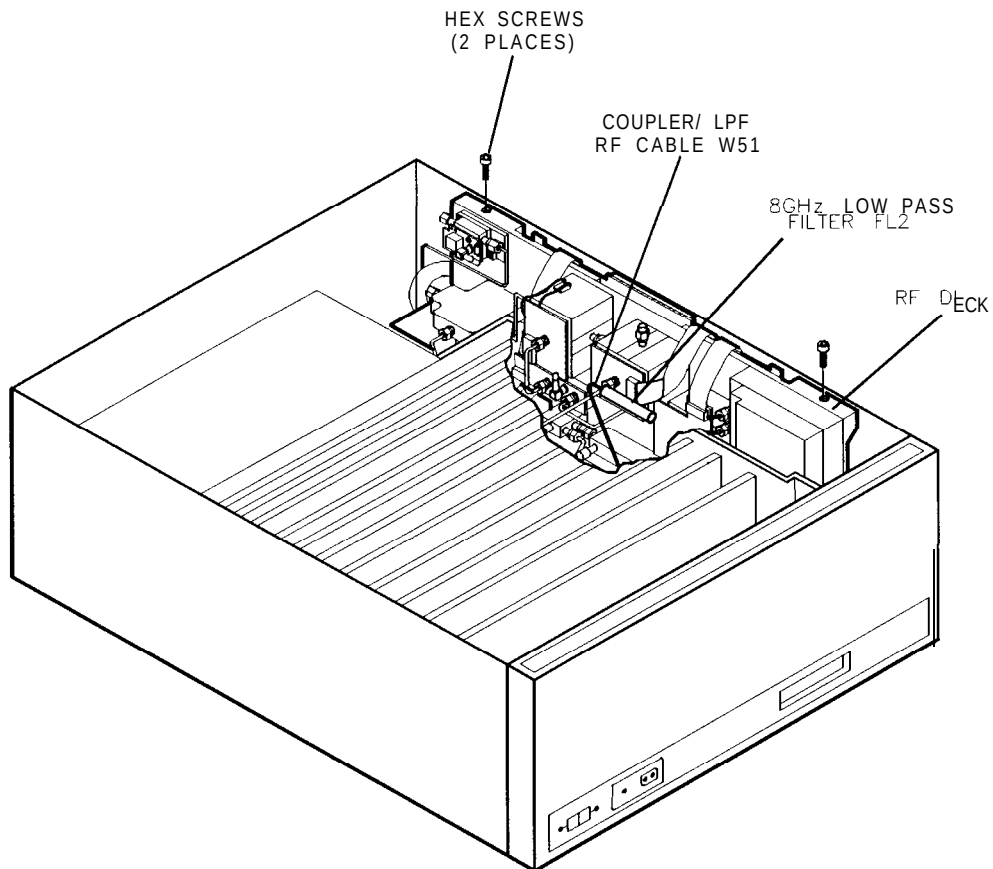

Figure 7-23. W51 RF Cable Location
4. Disconnect cable W51 from low pass filter FL2. Refer to Figure 7-23.